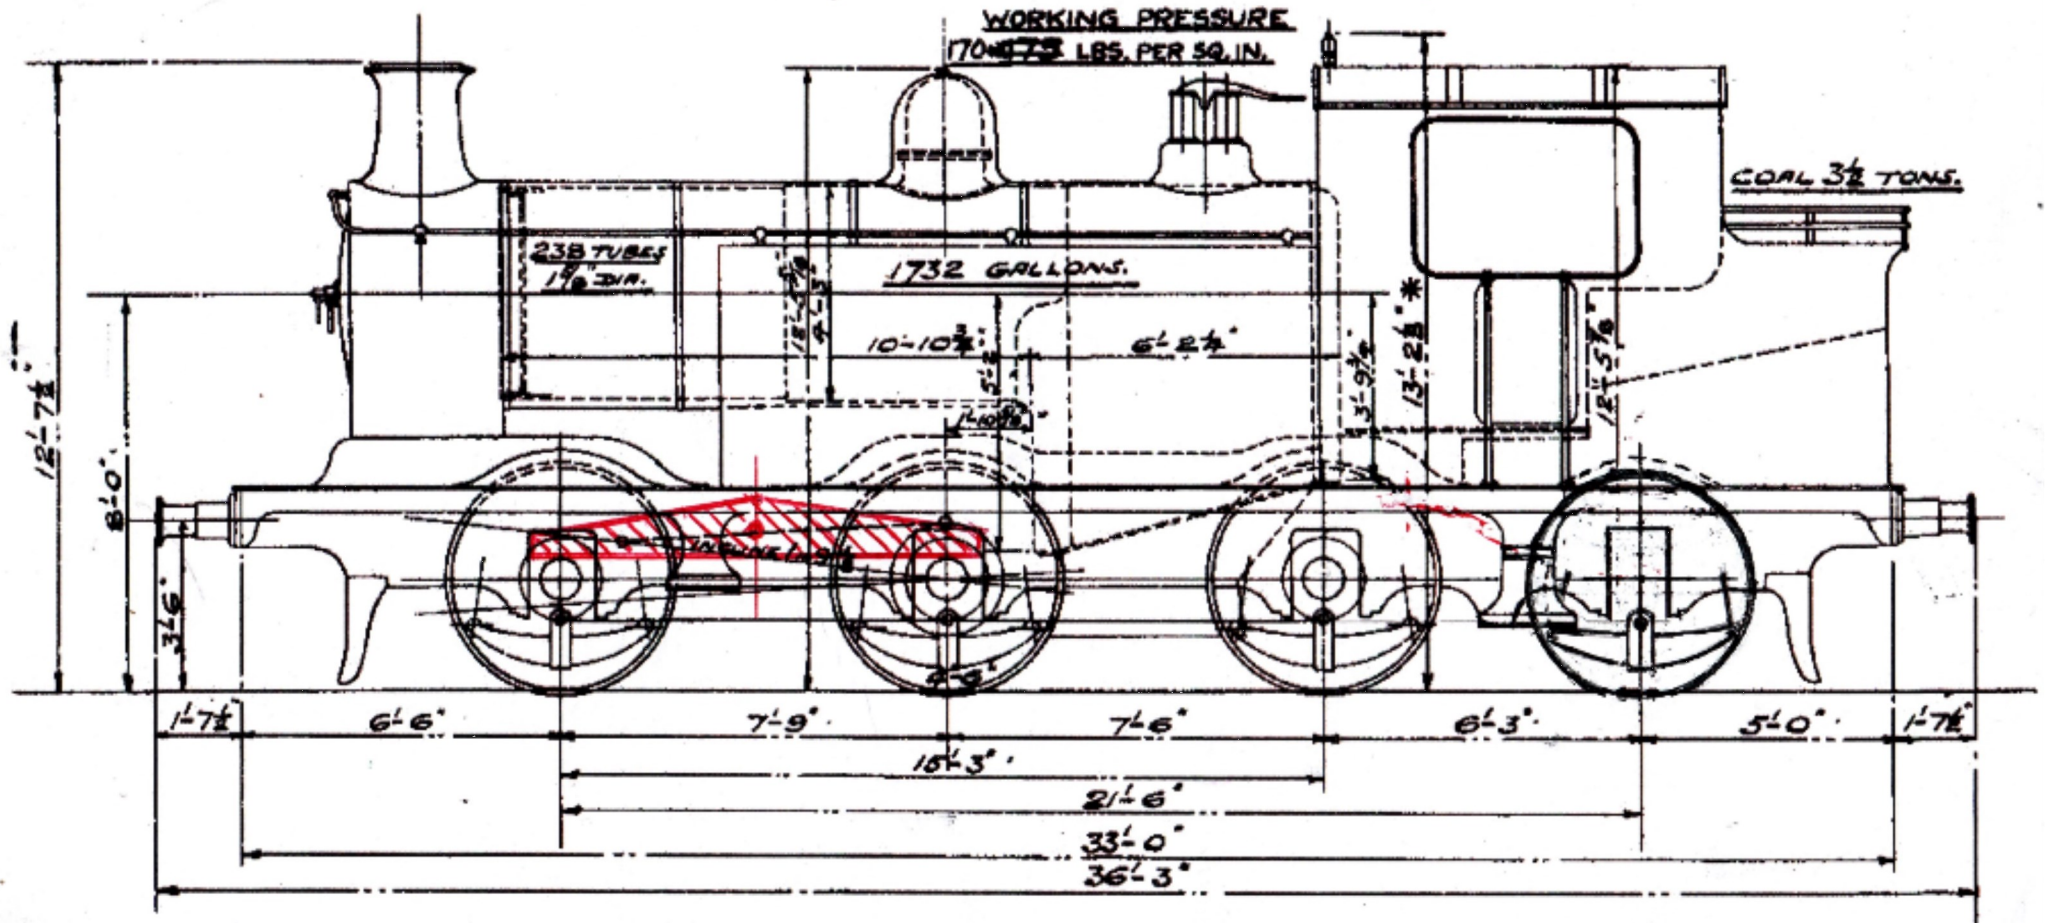

Fig 2
To get my head around the rear driving wheel arrangement, a scaled drawing was prepared as shown in Fig 2 (1). I removed the existing rear wheel and drew in a larger 4' 6" one. Also added was a 3' 9" leaf spring, matching the others on the drawing. Lastly, I drew in a 'compensation beam' (shown in red) which would compensate the four front drivers, leaving the third one 'fixed' i.e. from the motor driven axle, and the rear driver 'sprung'. This arrangement on my LB&SCR E1 Class 0-6-0T and E1X 0-6-0T works fine, so it was copied on this locomotive.
After the hornblock slots were cut out to accept the Slaters hornblocks, the frame was soldered together using the f/s (fine scale) frame spacers supplied. The compensation beams (as noted in red on the drawing Fig 2), were cut out in pairs from scrap n/s sheet, which rest on top of the four hornblocks. The horn guides are simple scraps of 2mm wide n/s soldered onto the inner face of the sides. With the third, fixed driving axle in place, the frame was levelled by filing off small amounts of the compensation beams.